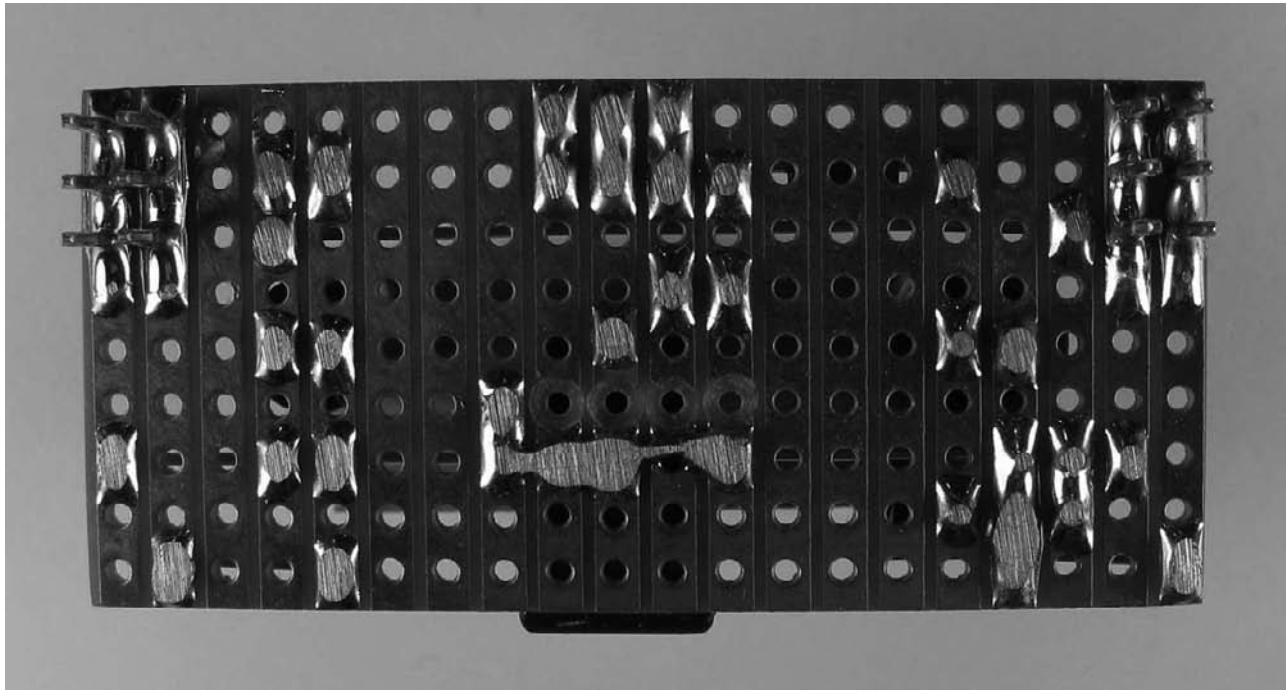
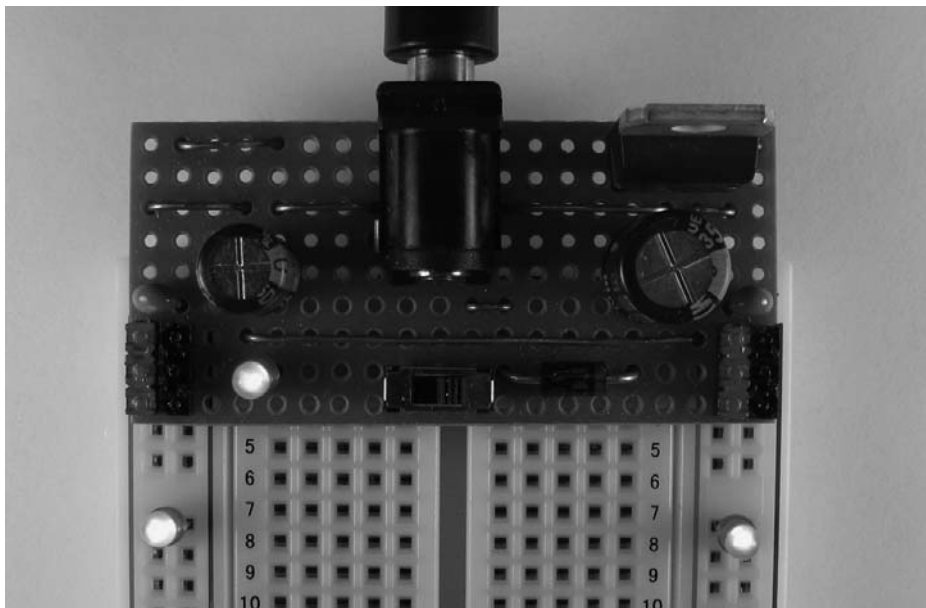

Figure 3-8 Close-up of bottom of completed power supply circuit
Figure 3-9 Completed power supply being tested on breadboard
- Figure 3-8 is a close-up of the bottom of the completed power supply circuit, and Figure 3-9 shows it installed on a breadboard, ready for testing. The three header pins on each side of the board that appear gray in the photo have been painted red to make sure that I insert the supply into the breadboard power rails in the correct orientation. The two LEDs that are inserted into the two power rails are, of course, resistorized. Since they are the smaller 3-mm variety, there’s no flat section in the plastic to identify the cathode, so if you cut the leads, be sure to make the cathode lead slightly shorter for easy identification. When you test your power supply, also measure the voltage on both positive rails to make sure that they’re close to +5.0V ($\pm 0.2V$ should be fine).